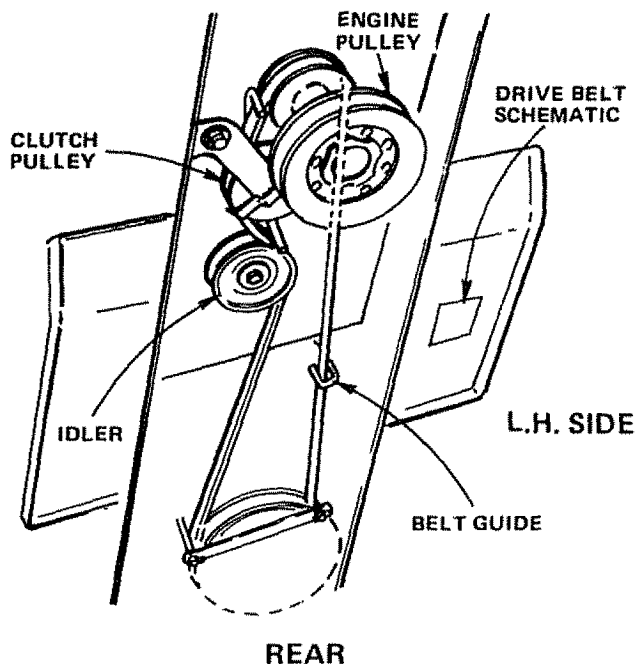

FIGURE 34
- e. Roll Belt over Engine Pulley and off Idler (Fig. 34).
- g. Reset Parking Brake, Pull Belt over top of Clutch Pulley (Fig. 34).